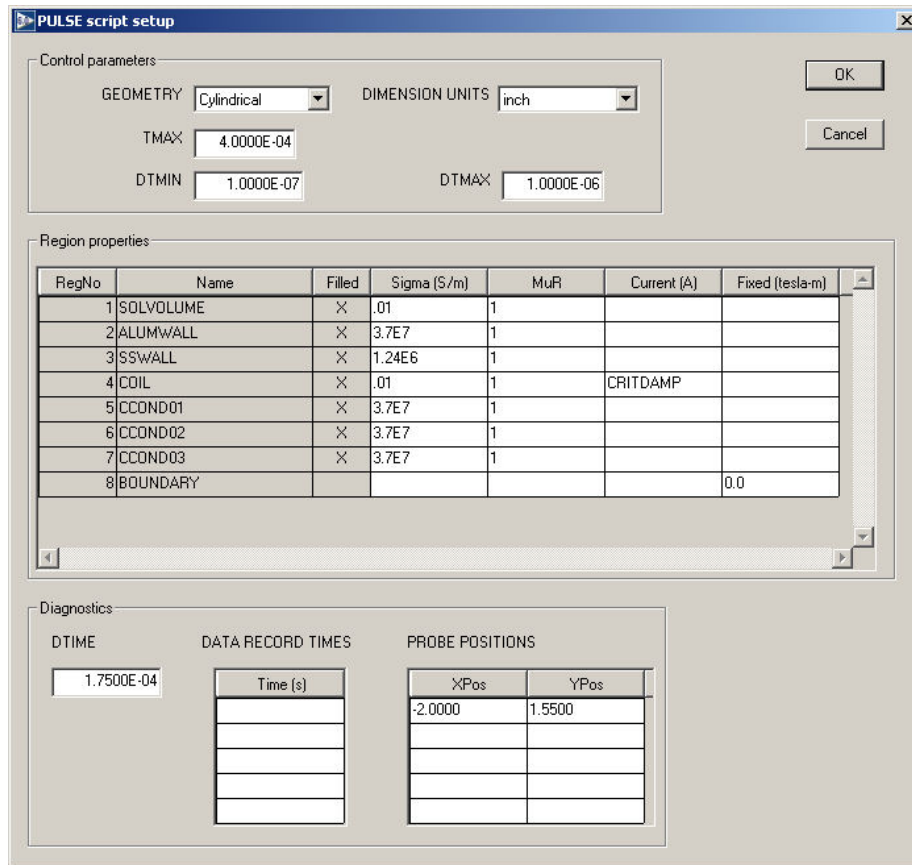

Figure 5: Dialog to set **Pulse** control parameters and region properties.
To start the first operation, we must identify the **Mesh** output file that defines the system geometry. Click the 1 tool or the *Setup* menu command. In the dialog, choose the file WALKTHROUGH.MOU. **Pulse** loads the information and displays the dialog of Fig. 5. Note that the grid contains a row for each mesh region with a notation of the *Fill* status. There are four columns in the grid where you can enter values: *Sigma* (electrical conductivity in S/m), *MuR* (relative magnetic permeability), *Current* (total current I_z or I_θ through the region cross section in amperes) and *Fixed* (specified value of A_z in tesla-m or rA_θ in tesla-m²).
Set up the dialog with the values shown in Fig. 5 and click *OK*. **Pulse** uses the information in the dialog to create the script WALKTHROUGH.PIN shown in Table 3. Chapter 3 reviews the script format and advanced program capabilities.
In the region quantities of Fig. 5, note that the vacuum/air region (1) has $\mu_r = 1.0$ and $\sigma = 0.01$ S/m. The conductivity is much smaller than the metal regions but not zero. In a diffusion solution, information must propagate at a finite velocity. The speed of light does not enter into the magnetic diffusion equations discussed in Sect. 1.5. Therefore, the value $\sigma = 0.0$ would give an infinite mesh velocity leading to numerical instability. The choice $\sigma = 0.01$ ensures that changes of magnetic field move rapidly through the air/vacuum regions compared to the rise-time of the drive current pulse. The entry for region 8 sets $rA_\theta = 0.0$ for the nodes on the bottom, right and top boundaries of the solution. The condition constrains the magnetic field to be parallel to these surfaces. It is clear that the condition holds on the bottom boundary (axis of rotation), but some explanation is needed for the other two. The field will not be completely contained by the aluminum vacuum chamber. Some flux leaks out, and one of our goals is to find the magnetic field amplitude outside the tube. In a finite-element calculation of magnetic-field diffusion, it is not possible to define an ideal free-space boundary. In **Pulse**, there are two choices for the boundary condition: 1) parallel **B** and 2) normal **B**. To approximate the free-space condition, we include an isolating air region around the system and apply the condition that **B** is parallel. With no specification, the left-hand boundary automatically assume the natural boundary conditions for a finite-element magnetic-field solution (normal **B**). Because there is a long, uniform section of transmission line to the left of the solution volume, the condition that $B_r = 0.0$ is approximately correct.